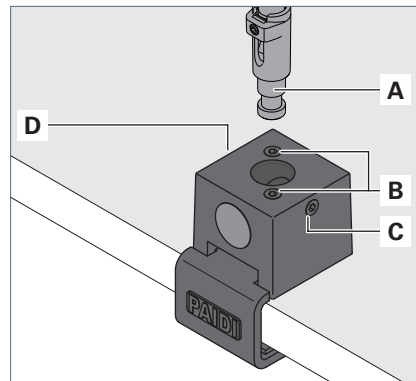

Fig. 1: Mounting the luminaire to a horizontal mounting surface.
- ▶ Fix the table clamp to the mounting surface using the screws **B**, see Fig. 1.